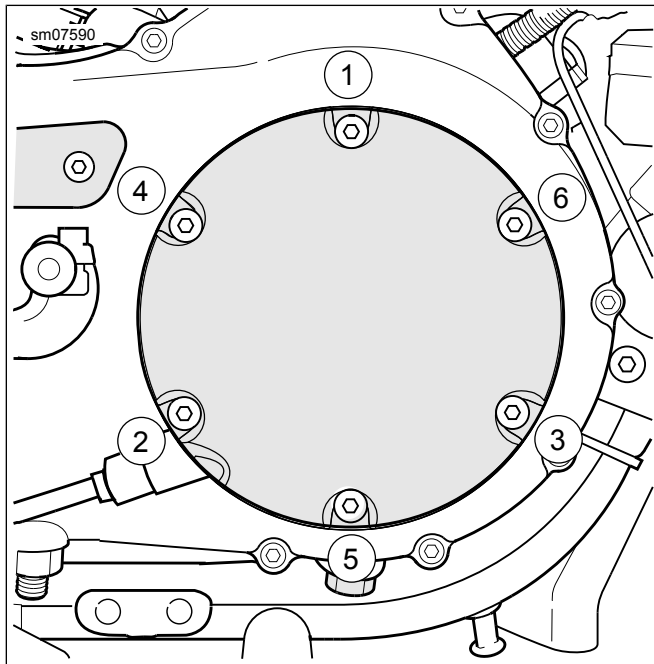

Figure 2. Clutch Inspection Cover Torque Sequence
2. Install **new** cover (1) and secure with screws (2) and washers (3).
3. See Figure 2. Tighten screws in a star pattern.